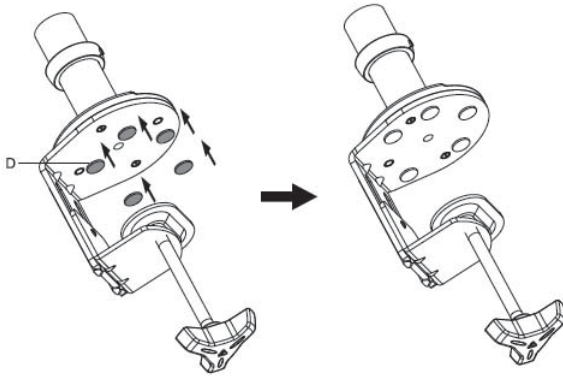

Figure 1
1. Place the Rubber Pads (D) onto the upper desk clamp, see Figure 1.